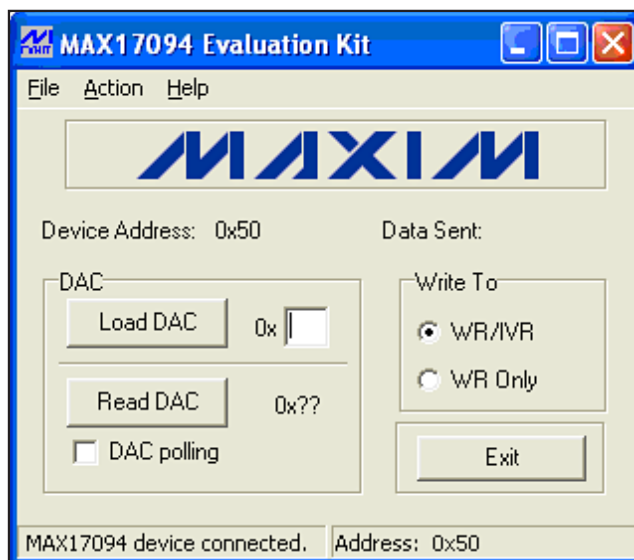

Figure 1. MAX17094 EV Kit Software Main Window
- 12) Normal device operation is verified when **MAX17094 device connected** appears in the **status bar** on the MAX17094 EV kit main window (Figure 1).
The DAC setting corresponds to a certain sink-current level, which in turn corresponds to a specific VCOM voltage. With the MAX17094 EV kit software, the device's 7-bit internal DAC is configured by entering an appropriate DAC setting into the **Load DAC** edit box. The DAC setting can be set from 0x00 (VCOMMIM) to 0x7F (VCOMMAX). The DAC setting is written to the device by pressing the **Load DAC** button (Figure 1).
There are two methods for communicating with the MAX17094: through the MAX17094 EV kit software main window (Figure 1), or through the interface window available by selecting the **Action | Interface Diagnostic Window** menu item from the menu bar. The Maxim command module interface window (Figure 2) includes a **2-wire interface** tab that allows for execution of the **SMBusSendByte()**, **SMBusReceiveByte()**, and **SMBusQuick()** commands. See Table 6 for details regarding SMBus commands.